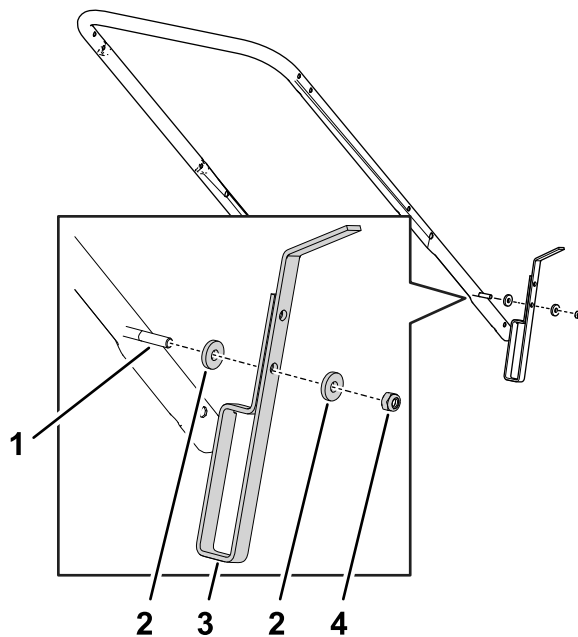

Figure 4
2. Align the hole in the footstop with the hole in the lower handlebar (Figure 4).